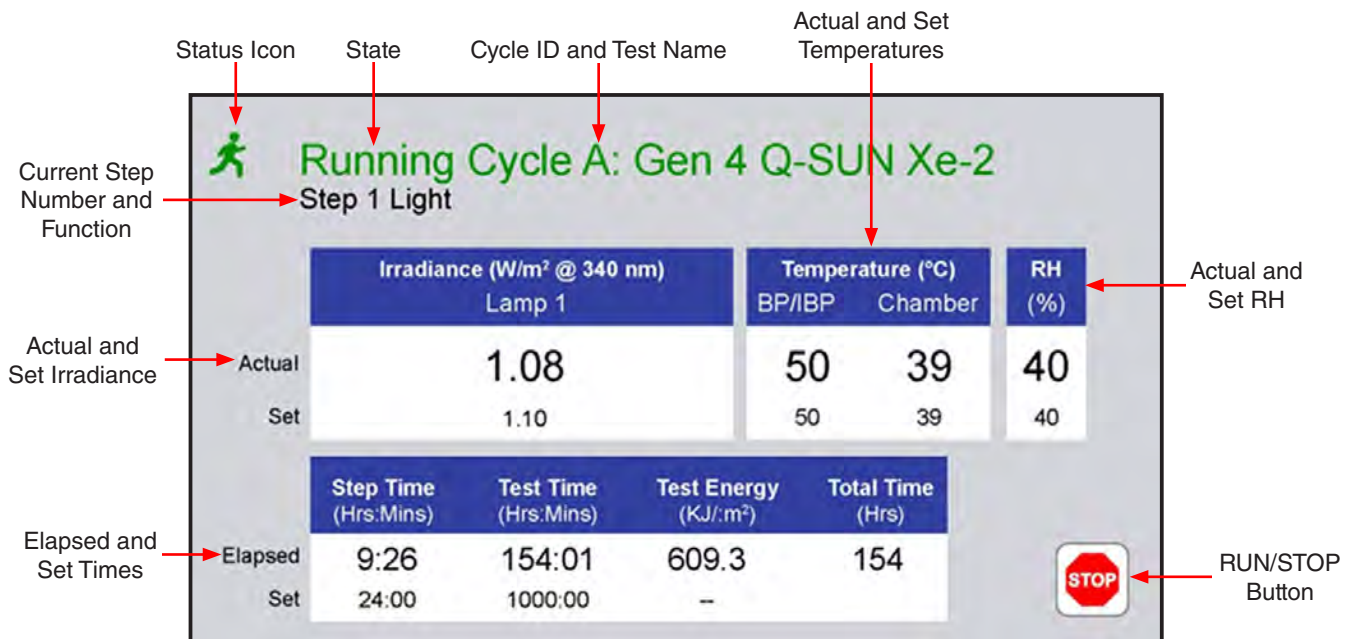
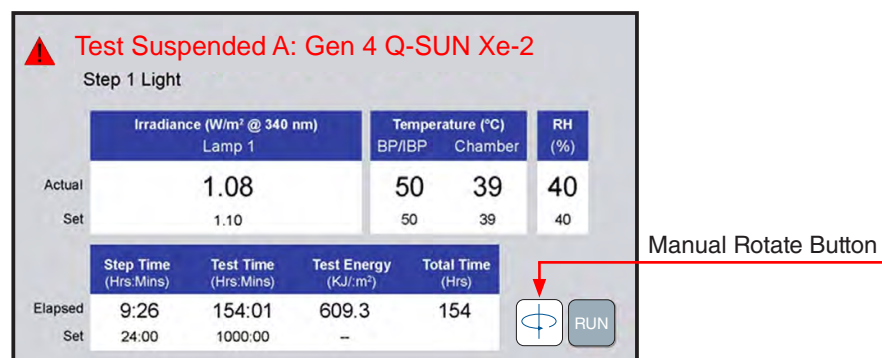

Figure 11.2a: Status Screen display elements.
Figure 11.2b: Manual Rotate button.
- The Status Screen (Figure 11.2a) displays:
- Actual relative humidity (RH) and set point RH values.
- When the test is stopped and the test chamber door is opened the Manual Rotate button is displayed (Figure 11.2b). Touch this button to rotate the turntable for mounting or removing test specimens.